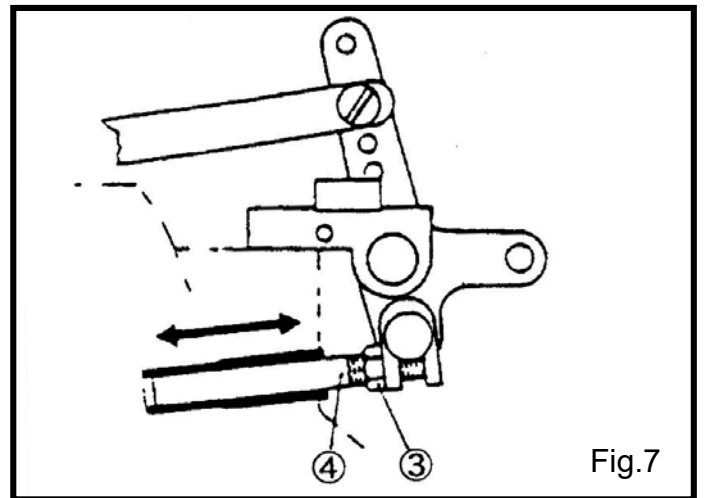

Fig.7
1. 放鬆螺母③。(Fig.7)
2. 移動抬壓腳停止插銷④或再調整外面間隙。
1. Loosen the lock nut ③ . (Fig.7)
2. Move the presser foot lifter stop plunger ④ in or out to adjust the clearance.